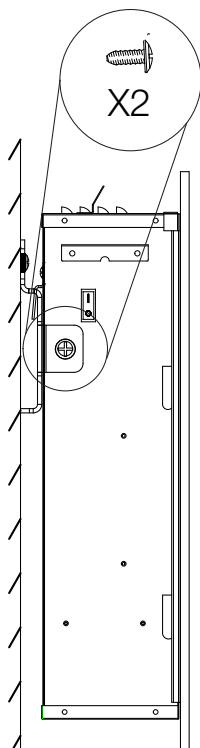

Fig. 1
- F. Secure the appliance to the wall bracket using the 2 screws previously removed in Step B (**Fig. 1**).